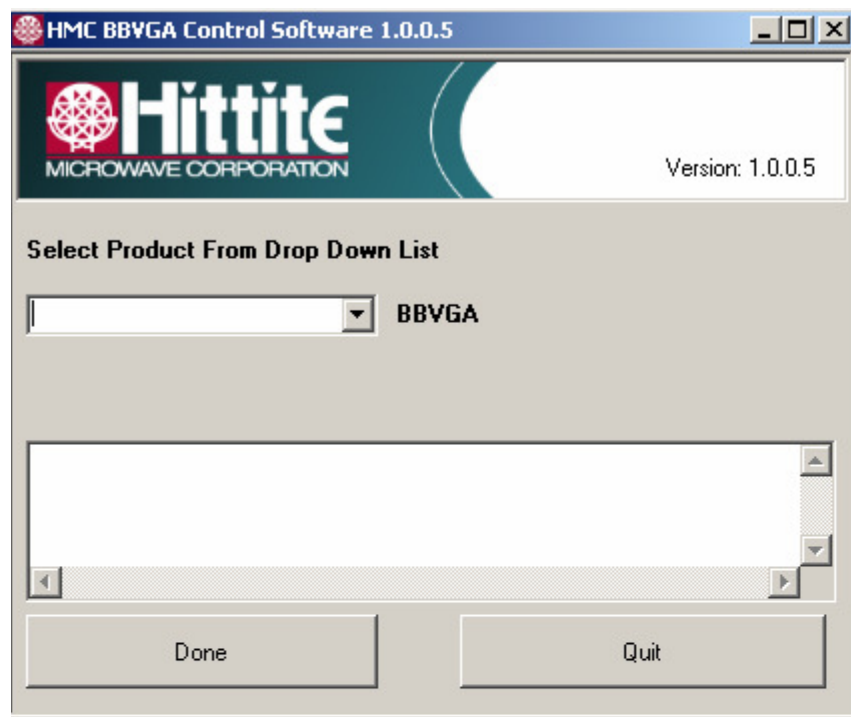

Figure 6. HMC BBVGA Control Software
1. Launch HMC960LP4E Evaluation Software by selecting on "Hittite BBVGA Eval Software V10xx.exe" from the Program Files menu of your computer. The main window should open. See Figure 6 below.